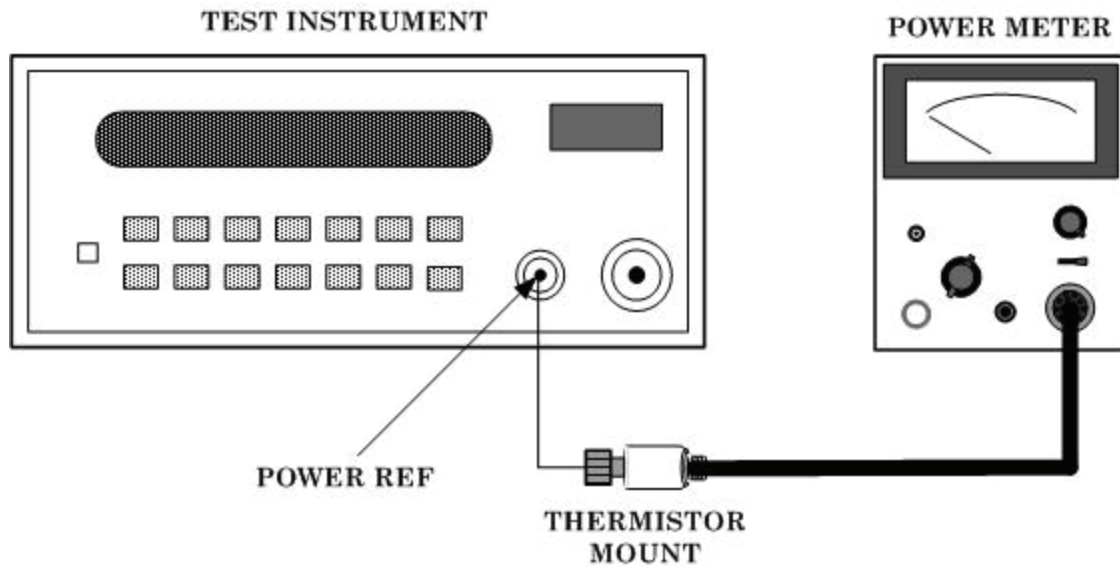

Figure 2. Power reference level test setup.
- (3) Set power meter **LINE** switch to **OFF** position.
- (4) Connect multimeter between center conductor of power meter rear panel **V_{RF}** connector and pin 1 of thermistor mount end of power meter interconnect cable.
- (5) Round off multimeter indication to two decimal places and record value as R (approximately 200 Ω).
- (6) Disconnect multimeter from power meter interconnect cable.
- (7) Connect equipment as shown in figure 2.